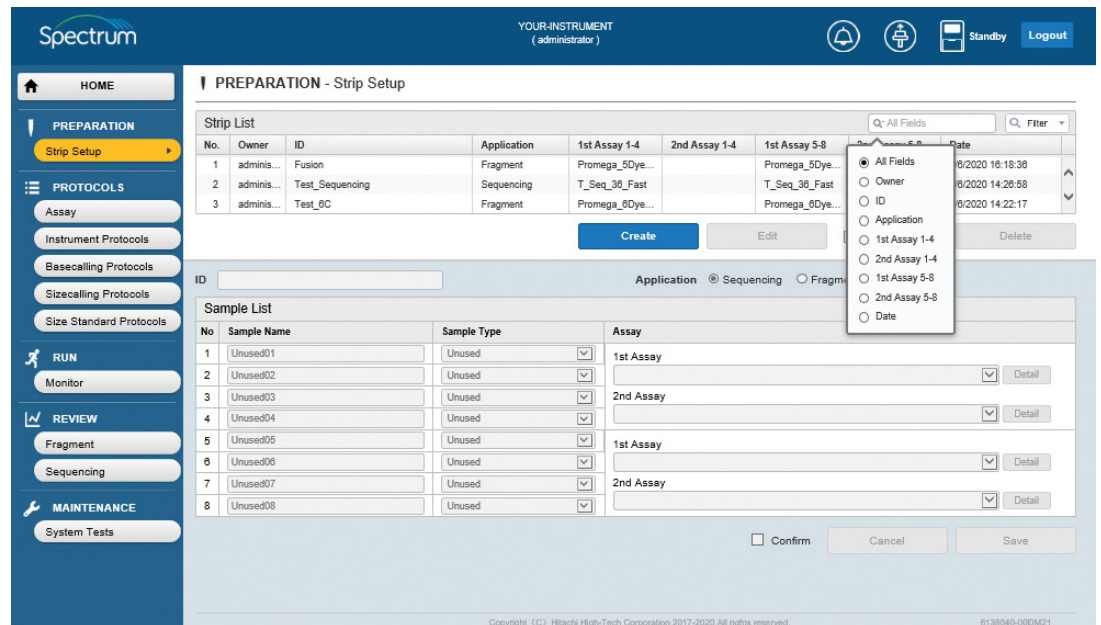

Figure 17. 'Strip List' select search field radio button window.
2. Data in the 'Strip List' may be searched and filtered (i.e., searched for based on specific values and then filtered such that only strips that meet the criteria are displayed in the 'Strip List'). Select the magnifying glass icon on the **Select Search Field** box to display a window with radio button selections that allows you to search by All Fields, Owner, ID, Application, 1st Assay 1-4, 2nd Assay 1-4, 1st Assay 5-8, 2nd Assay 5-8, or Date (Figure 17).